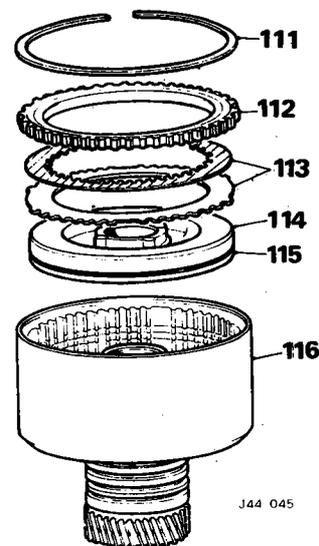

Fig. 44
- 111. Remove the snap-ring retaining pressure plate (Fig. 44).
- 112. Remove the pressure plate (Fig. 44).
- 113. Remove the inner and outer clutch plates (Fig. 44).
- 114. Remove the piston by applying air pressure to the supply hole in the clutch housing pedestal (Fig. 44).
- 115. Remove and discard the piston seal (Fig. 44).
- 116. Check clutch drum and bearing surfaces for scores or burrs; replace drum if damaged (Fig. 44).